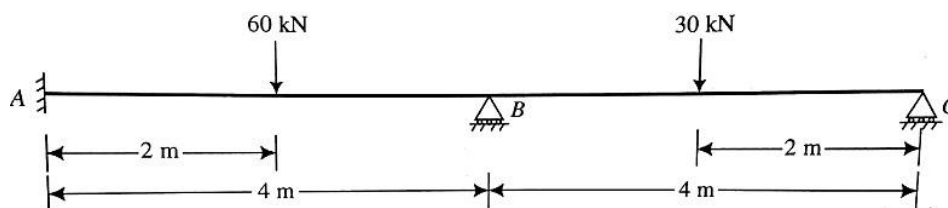

Figure 3.4
4. Analyze the continuous beam shown in Figure 3.4, if the downward settlement of supports B and C are 12 mm and 6 mm respectively. Given $EI = 20 \times 10^{12}$ N-mm². Use Flexibility matrix method